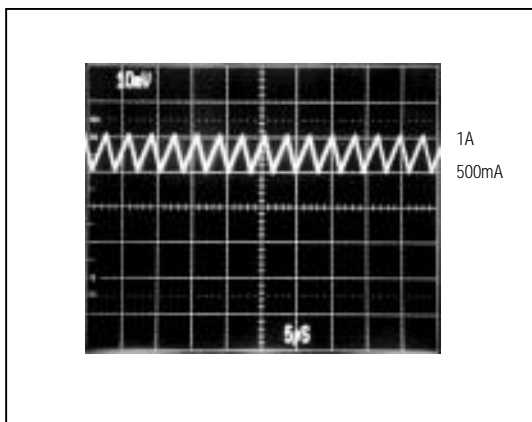

Figure 4a. CCM, Heavy Load Current Waveform (500mA/div)
The MAX761/MAX762 also limit the peak inductor current, allowing the devices to run in continuous-conduction mode (CCM) and maintain high efficiency with heavy loads (Figure 4a). This current-limiting feature is a key component of the control circuitry. Once turned on, the switch stays on until either (1) the maximum on-time one-shot turns it off ( $8\mu s$  later), or (2) the current limit is reached.
The coil's inductance need not satisfy this criterion exactly, as the circuit can tolerate a wide range of values. Larger inductance values tend to produce physically larger coils and increase the start-up time, but are otherwise acceptable. Smaller inductance values allow the coil current to ramp up to higher levels before the switch can turn off, producing higher ripple at light loads. In general, an 18µH inductor is sufficient for most applications ( $V_{IN} \leq 5V$ ). An 18µH inductor is appropriate for input voltages up to 3.6V, as calculated above. However, the same 18µH coil can be used with input voltages up to 5V with only small increases in peak current, as shown in Figures 4a and 4b.